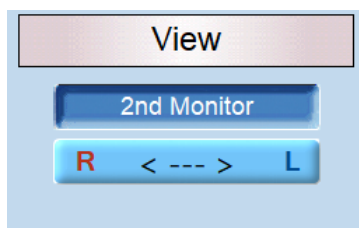

Figure 112
**R <---> L:** Choose on which side of the screen the right and left channel are to be displayed (Figure 112).
Figure 112 shows the general function keys. See Table 16 for explanation.